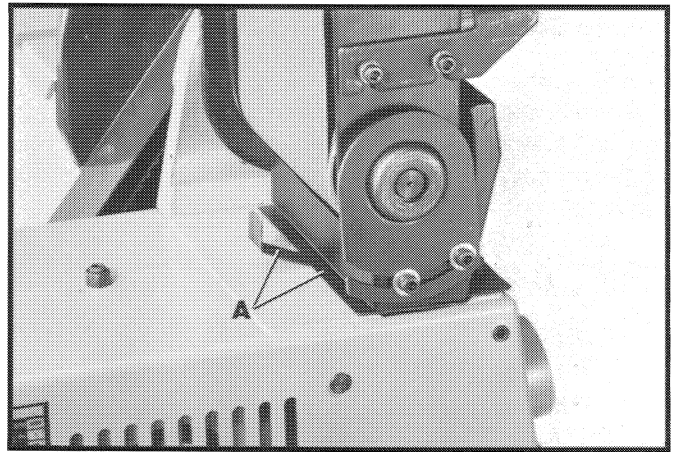

Fig. 36
If your sander is connected to a dust collection system, the sander is equipped with a manually operated dust shield (A) Fig. 36, which must be adjusted to suit the sanding operation.
1. If you are sanding with the disc, push in on dust shield (A) Fig. 36.